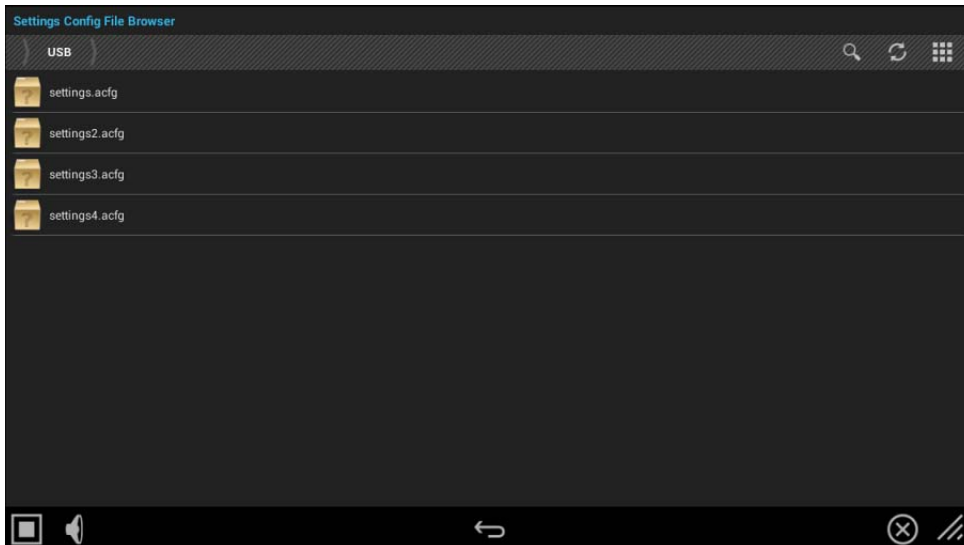

FIG. 90 Setting Config File Browser window
1. In the *Reset and Update* page, press **Load Settings** to open the *Setting Config File Browser* window (FIG. 90):